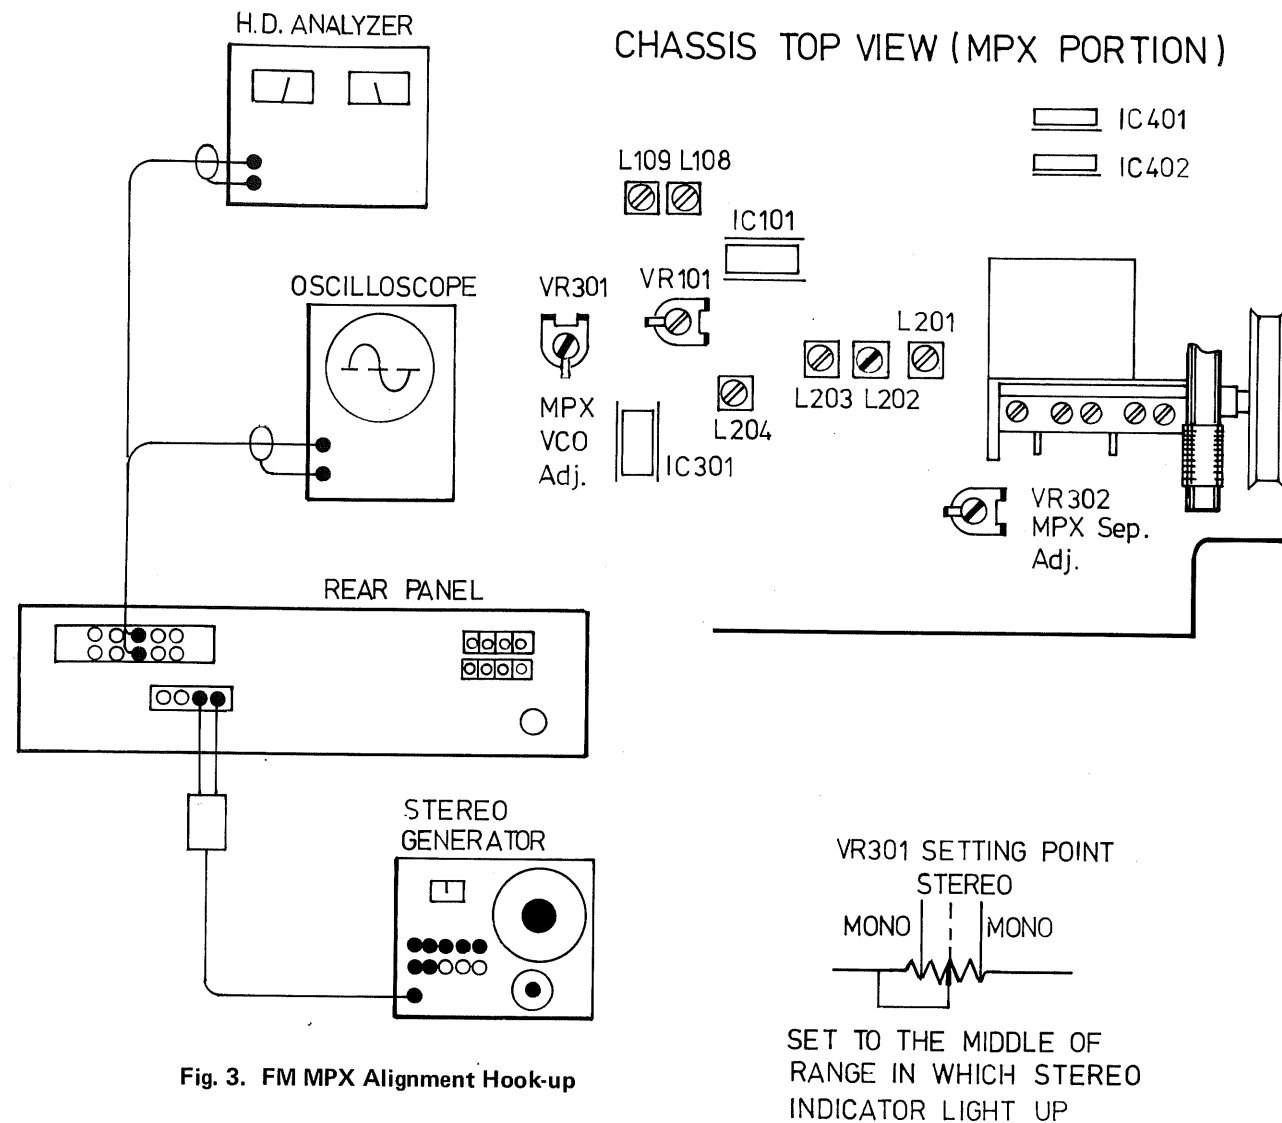

Fig. 3. FM MPX Alignment Hook-up
5. Adjust VR301 so that the output signal on Oscilloscope and AC VTVM is maximum, position of VR301 refer to Fig. 3